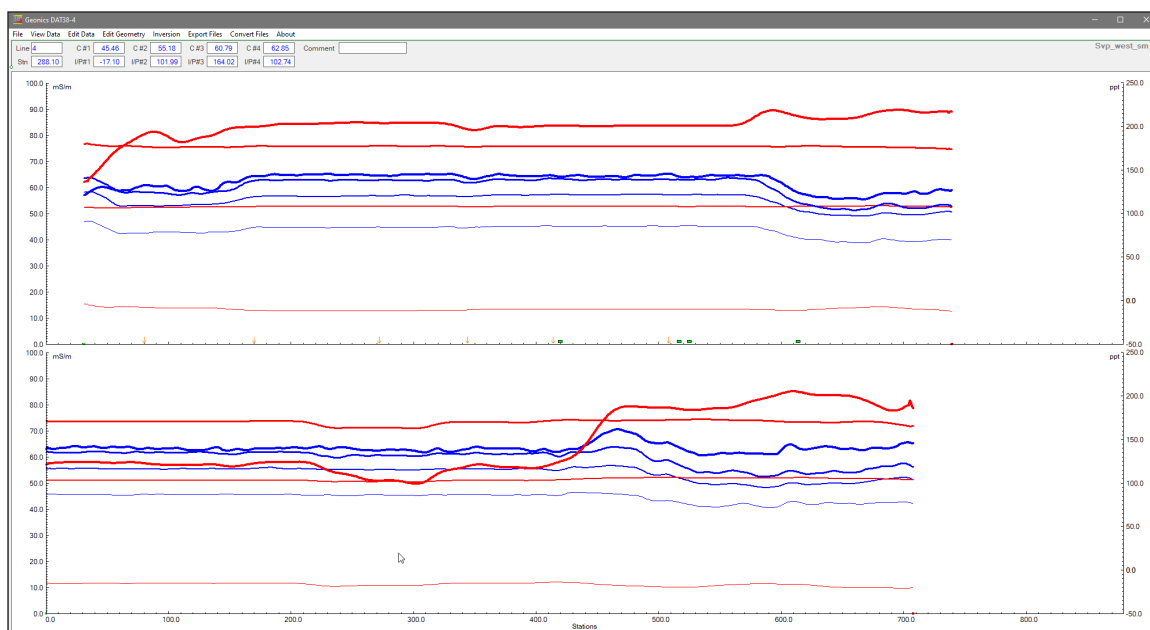

Figure 3.15 DAT38-4 screen with selected survey lines
- You can click line names to select/deselect them, use Select All/Unselect All, or reverse the order (Figure 3.15).